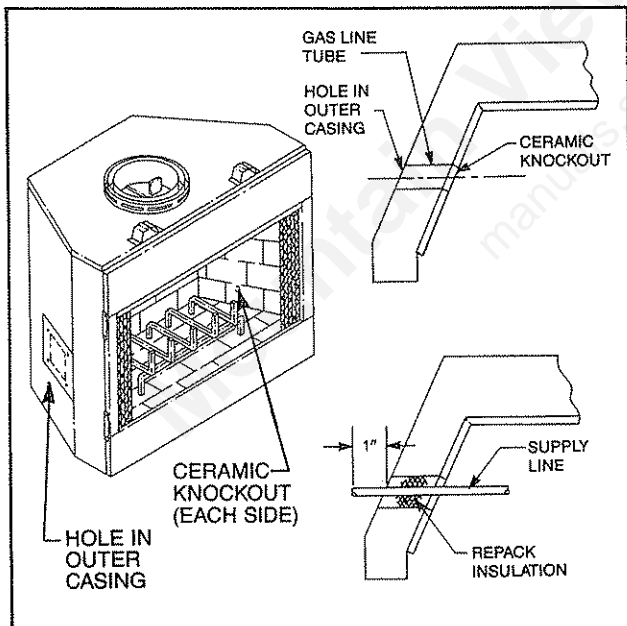

Fig. 26. Install iron pipe gas line through hole provided in either side of fireplace.
Locate the gas line hole in the outer casing of the fireplace and remove the insulation from the gas line tube. (Refer to Fig. 26.)
**NOTE: The gas pipe should not come in contact with any wood structures until it has reached a point at least one (1) inch away from the fireplace side. (See Fig. 26 for installation clarification.)**